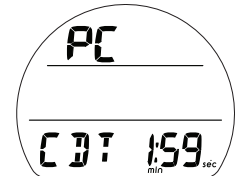

Fig. 107 - PC INTERFACE
Upon sensing an interface connection, the requesting device (PC) connects to the VEO and is prepared for Upload of settings or Download of data which is then initiated using the PC program. During the process, which is a 2 minute window there is a PC countdown screen displayed on the VEO (Fig. 107).